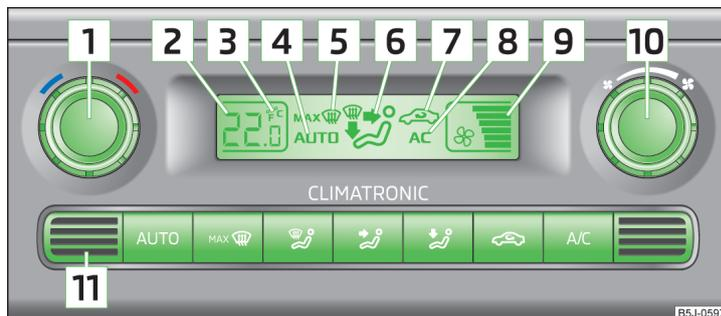

Fig. 97 Climatronic: Control elements
Do not stick anything on or cover the interior temperature sensor **11** » Fig. 97; it could have an unfavourable effect on the Climatronic system.
- Press the **AUTO** button » Fig. 97 on page 90; **AUTO** will appear in the display.
- Turn the control dial **1** » Fig. 97 on page 90 to the left or to the right to increase or decrease the temperature.
The information appears in the display in the desired temperature unit (no. **3** » Fig. 97 on page 90).
- Press the ☞ button » Fig. 97 on page 90.
- Press the ☞ button » Fig. 97 on page 90 again.
- Turn control dial **10** » Fig. 97 on page 90 to the left or to the right to increase or decrease the blower speed.
The blower speed set is indicated by displaying the corresponding number of segments in icon  » Fig. 97 on page 90 in the display.
➤ Press the  button » Fig. 97 on page 90.
➤ Press the  button » Fig. 97 on page 90 again or press the **AUTO** button.